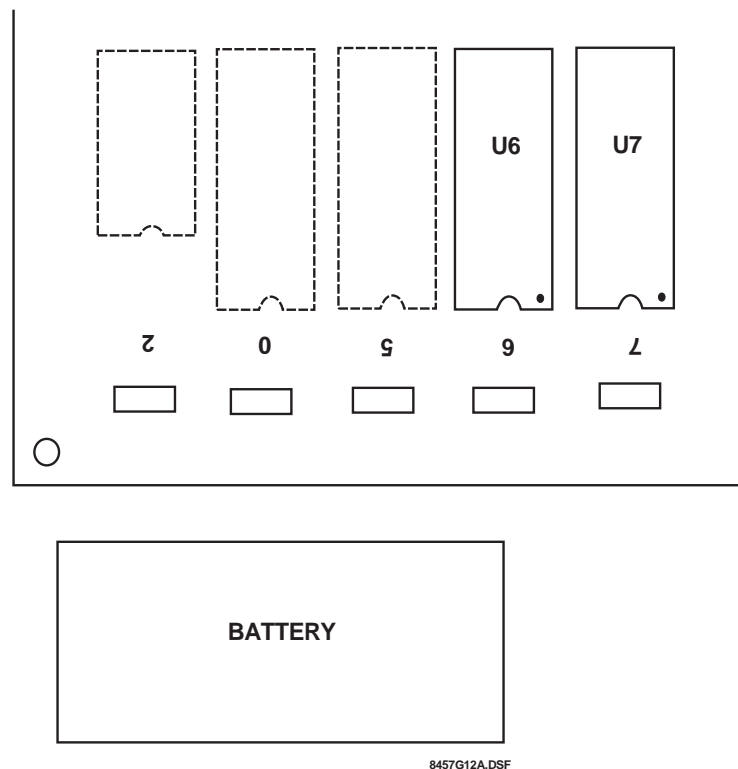

Figure 6: EPROMs U6 and U7
4. Carefully lift the bottom of the cover to expose the battery and printed circuit board. (See Figure 6 for the locations of U6 and U7). These EPROMs must be replaced with the EPROMs that contain the updated software.
Before inserting each new EPROM, make sure that Pin 1 of the EPROM is located at the lower right corner of the socket (see Figure 6).